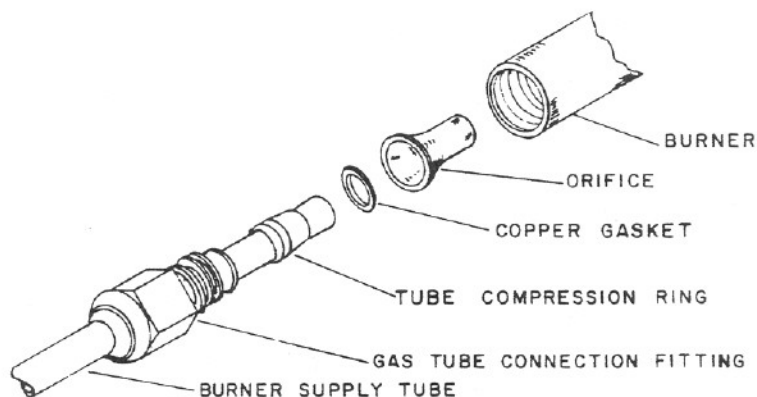

Figure 8-10. Cleaning Gas Burner Orifice
3. Remove and clean the gas burner orifice, figure 8-10, as follows: